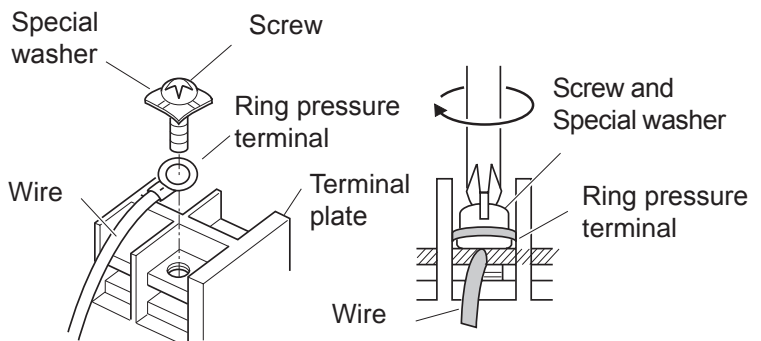

Fig. 5-4
4. Place the ring pressure terminal, and replace and tighten the removed terminal screw using a screwdriver. (Fig. 5-4)